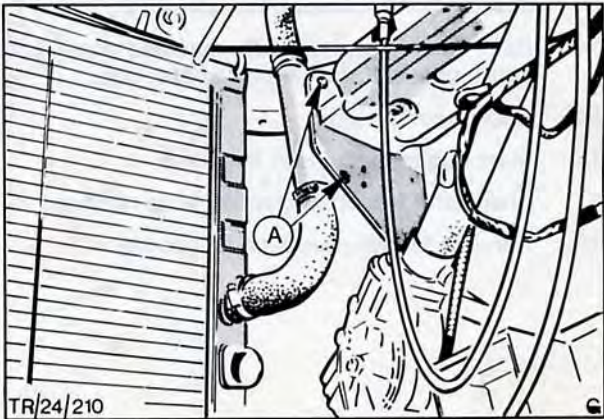

Fig. 8. A – Two securing bolts accessible from reverse side (Viewed from engine compartment for clarity)
6. Unbolt overflow pipe from inner fender panel, Fig. 8.
9. Secure the overflow pipe to the inner fender panel with two bolts, Fig. 8.